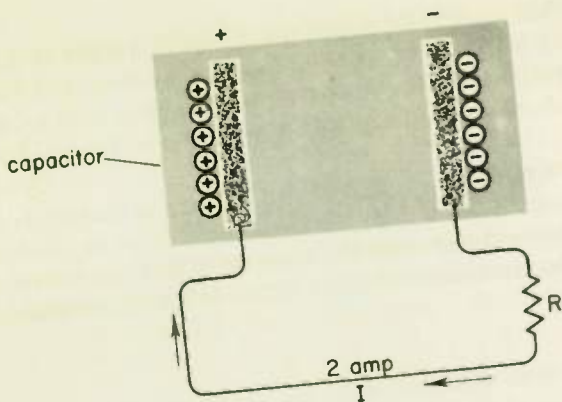

Fig. 14
1. Figure 14 shows a wire connecting a resistor *R* between the charged plates of a capacitor. Because of the potential of the opposing charges, a 2-amp current flows through the connecting wire. As a result, the quantity of electricity stored in the capacitor (a) (*increases*) decreases. The amount of electricity stored changes at the rate of (b) 2 coulombs each second. If the original charge on the capacitor was 20
2. Referring again to Fig. 14, if the current strength when the wire is first connected is 2 amp, will it actually be this much 1 sec later?